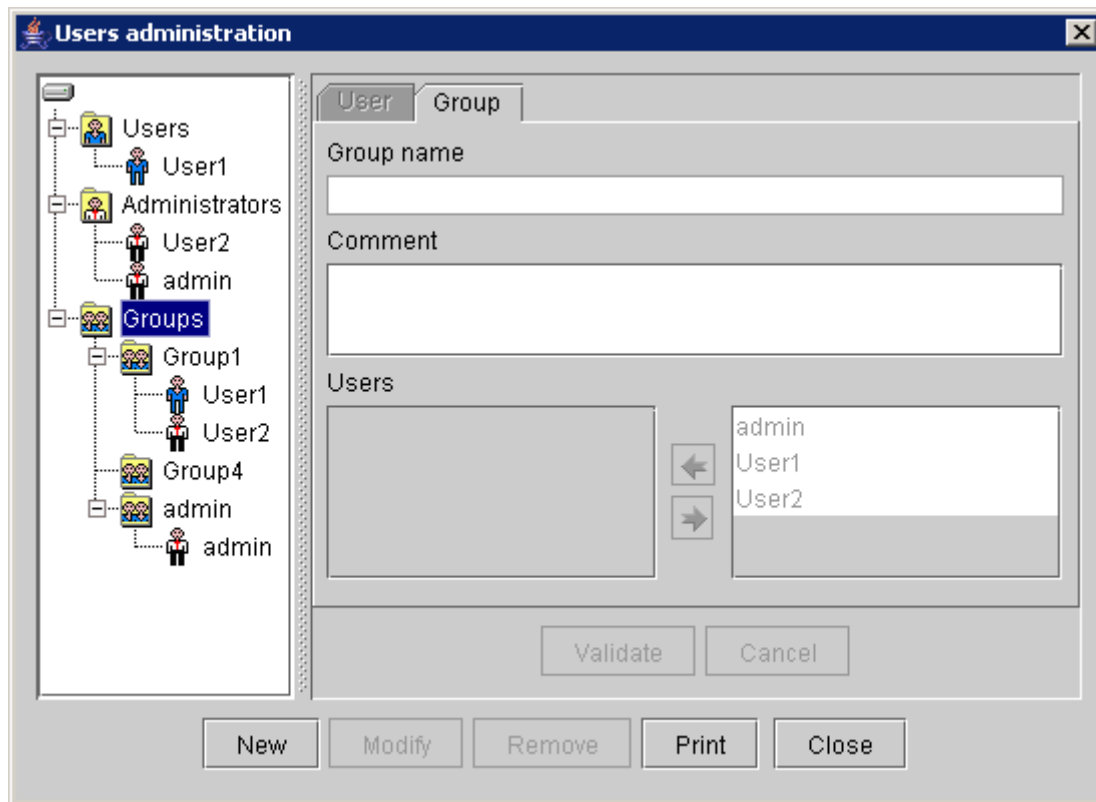

Figure 10 : Users group creation
- ◆ When the group is created, it is displayed in the **Groups** list (Figure 10).